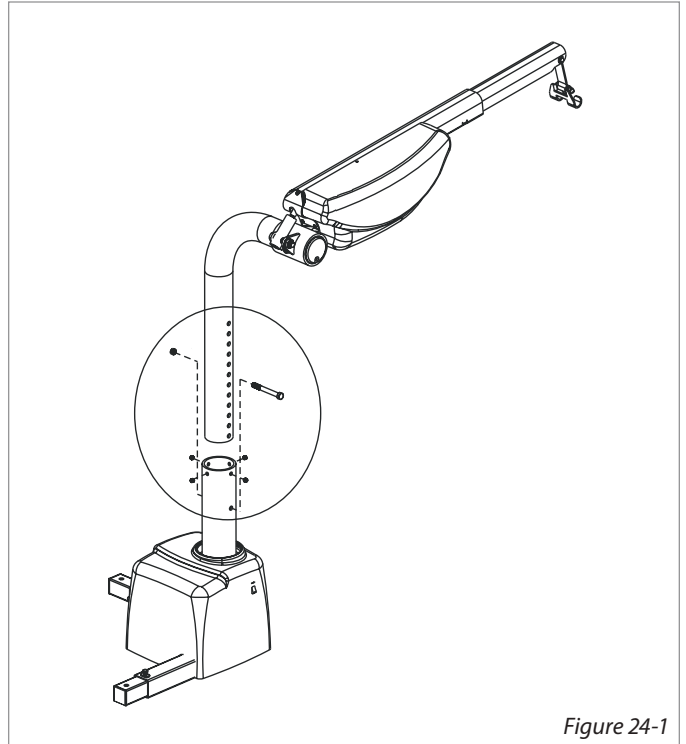

Figure 24-1
- Loosen set screws (x4). [Figure 24-1]